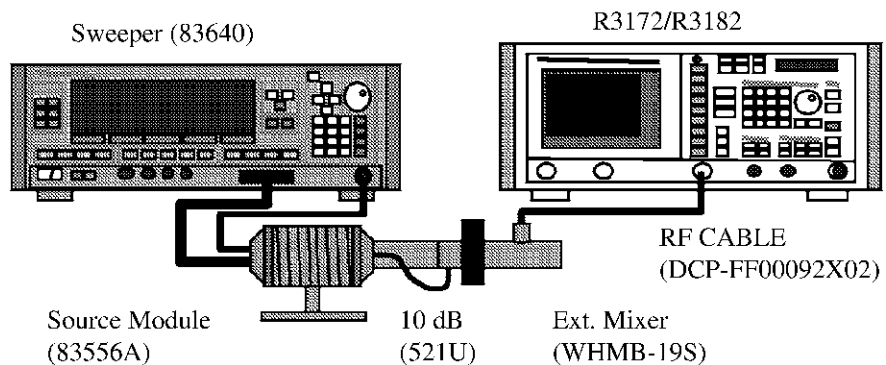

Figure 6-4 Setup of Noise Level Test
1. Connect equipment as shown in Figure 6-4.